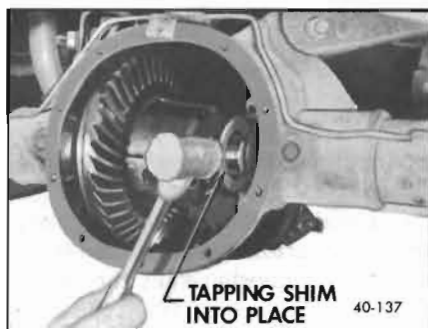

Figure 40-137—Installing Differential Adjusting Shims
2. Place differential case and bearing assembly in position in carrier. If old side bearings were installed, use original adjusting shims; if new bearings are to be used, select new right and left adjusting shims each .002" thicker than original shims. Slip left shims in position at left bearing with steel shim next to bearing, then place .140" shim for right side in position and drive steel shim carefully into position between bearing and cast shim using a soft hammer. See Figure 40-137.